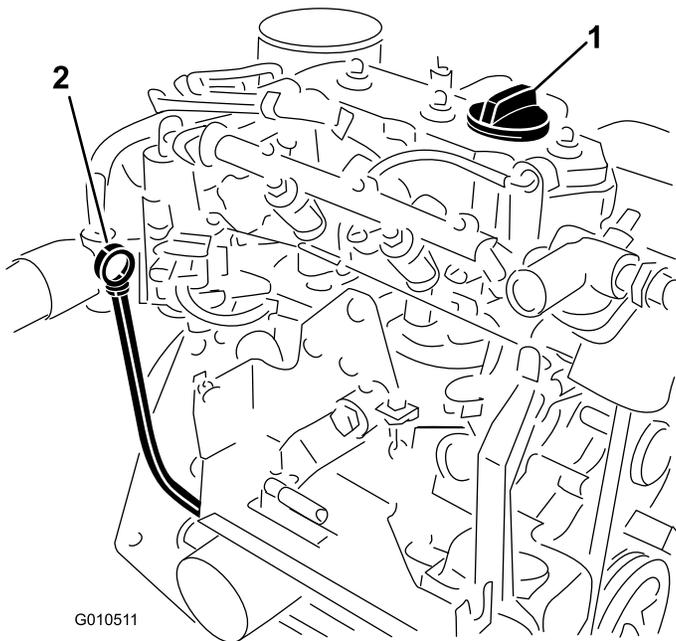

Figure 15
3. If the oil level is low, remove the filler cap (Figure 15) and add enough oil to raise the level to the Full mark on the dipstick.